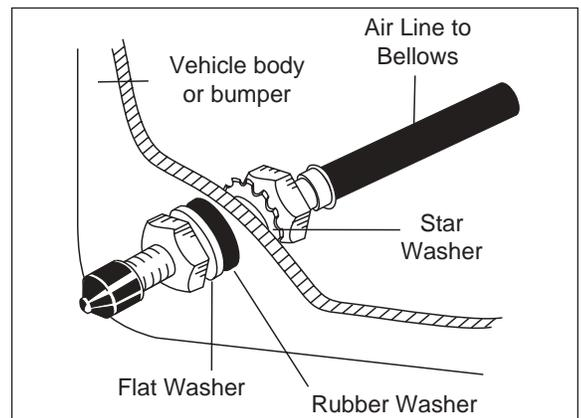

Figure 6
- Use a standard tube cutter or razor blade to cut the air line into two equal lengths. A clean square cut will ensure against leaks. Drill a 5/16" hole for the inflation valve and mount as illustrated. The outer rubber washer is used as a weather seal (Figure 6).